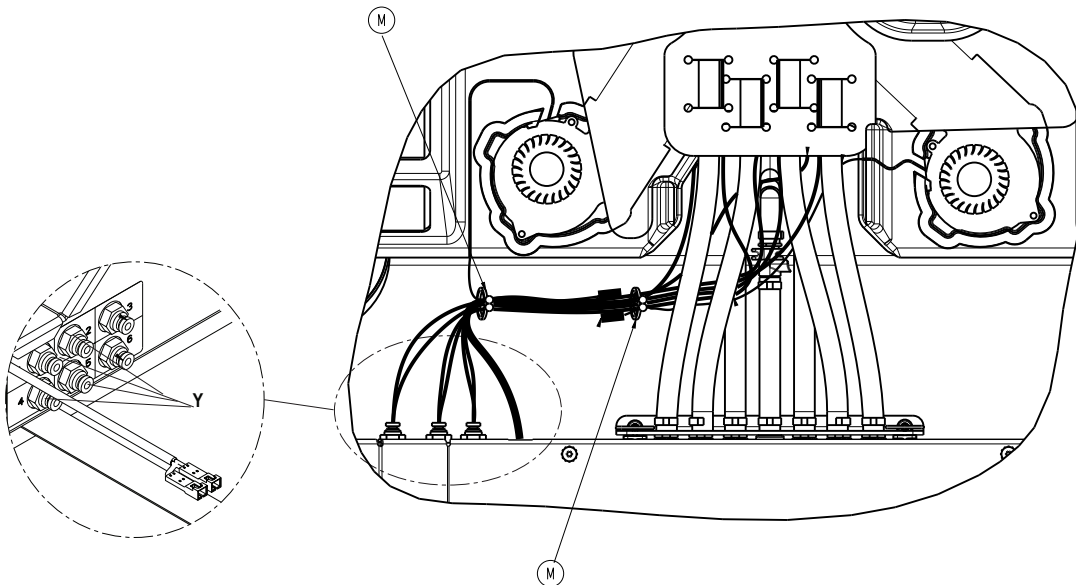

Figure 7 – Pod sensor hoses and purse lock wire tie
8. Disconnect the four pod sensor hoses (Y) (1 blue, 2 yellow, 4 green, and 5 orange) from the foot box. Push into the coupling and pull out on each of the hoses (Figure 7).
9. Remove sensor hoses from the purse lock wire ties (M) (Figure 7).